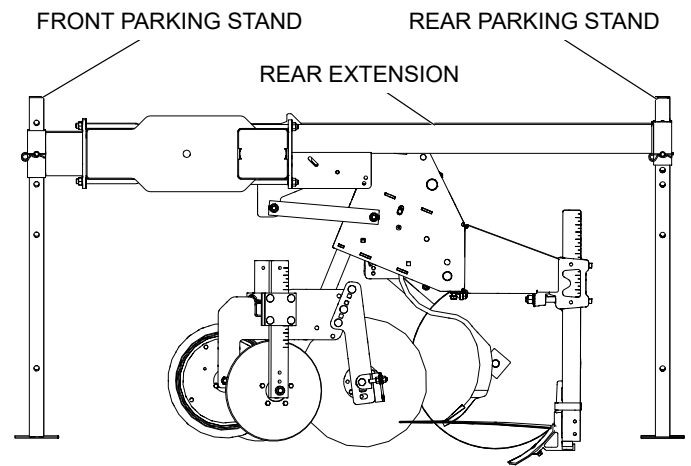

Figure 14 Front & Rear Parking Stands
1. Lower front parking stands to the ground and pin in position so that parking stands will be vertical when the tractor is removed. See Figure 14.
7. After establishing working depth, it may be necessary to reset the 3-point lever stop and adjust the support wheels or to adjust the stops on pull-type wheel cylinders to maintain operating position as shown in Figure 14.